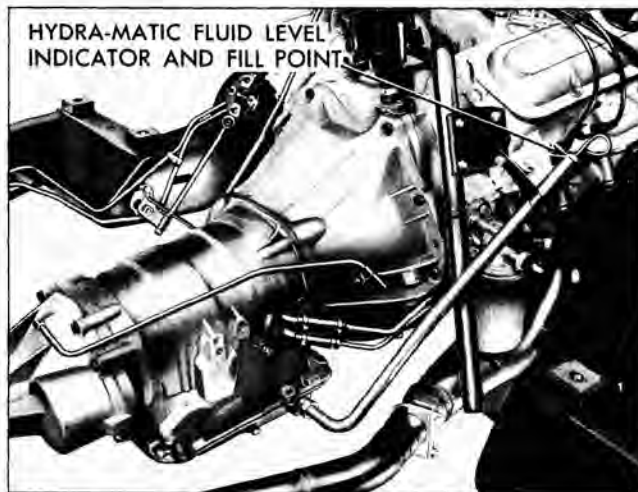
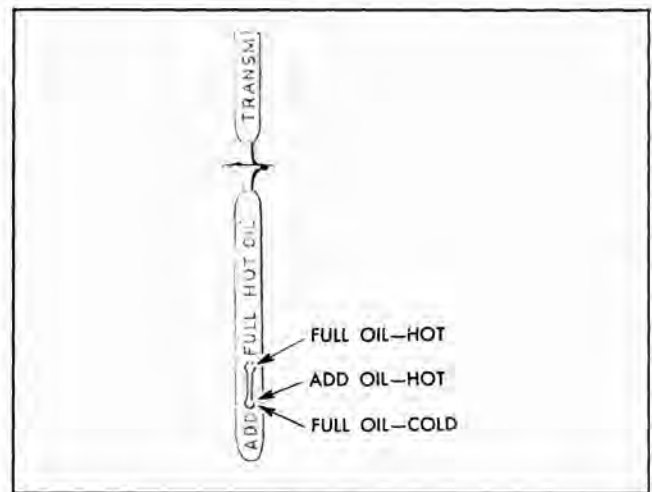

Fig. 38 Fluid Level Indicator
Fig. 39 Indicator Markings
The fluid level indicator is located in the filler pipe at the right rear corner of the engine (Fig. 38). To
bring fluid level from lower mark to full mark requires 1 pint (Fig. 39). Indicator handle should be turned slightly to lock it to the filler tube.
2. With engine idling at normal idle speed, check oil level indicator (Fig. 38) and note reading (Fig. 39). **NOTE:** When adding fluid use Automatic Transmission Fluid (Type A) from containers bearing Armour Institute qualification number "AQ-ATF".